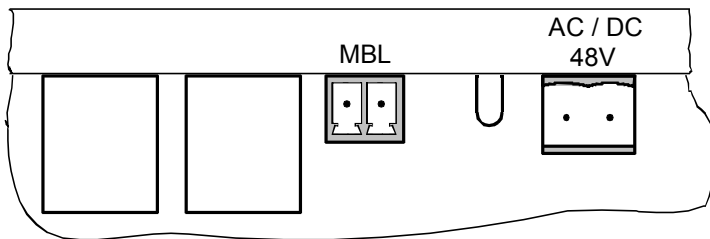

Fig. 6
- Wire line signal MOBALine or 48V power to the “48V” plug (Fig. 6).
- Wire the line signal MOBALine to plug “MBL” (see Fig. 6, 8 and 9)